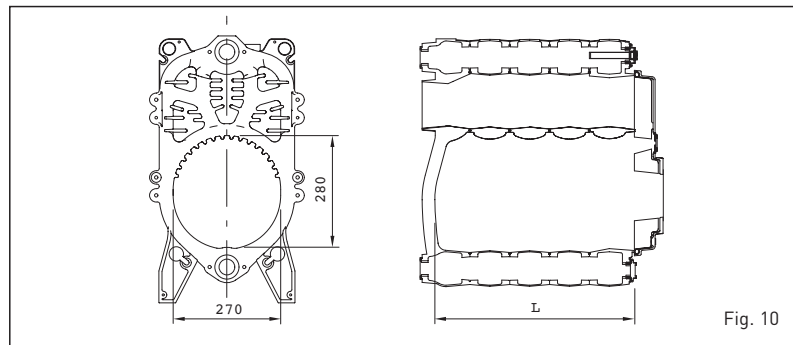

Fig. 10
3.1 COMBUSTION CHAMBER DIMENSIONS (fig. 10)
The dimensions are shown in fig. 10. An adequate protection panel is mounted on the inside wall of the rear head of all the models.